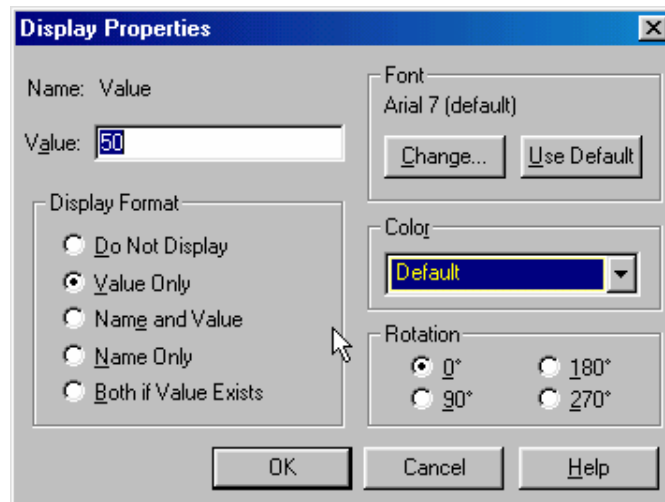

Figure C-7
- To complete the schematic, we have to change the component values. Each resistor was given a name in the order it was placed on the diagram. Thus, your resistors may not have the same names as shown above. However, for simplicity, they will be referred to by the name shown here. To change R1 to 50 ohms (the input impedance of the function generator), double click on the value *1k* and you should get the window shown in figure C-7 with the name *Display Properties*. Change the *1k* to *50*. If you find that the number is in a hard to read position on the circuit diagram, you can single click on it and then move it with the mouse. The next resistor brings up a very important issue since it has a value of 1 M ohms. When you type the value in the *Display Properties* window, you must type *1MEG* with no spaces. Note that you have to type *MEG* since *PSpice* uses *M* to mean  $10^{-3}$  and *MEG* for  $10^6$ . It is not case sensitive. Note that in the schematic pictured, R1 represents the function generator impedance, R2 and R3 are the resistors in your voltage divider and R4 represents the impedance of the scope. Since the scope impedance is 1M, we set R4 to 1MEG. R2 and R3 are 1k ohms, you don't need to set them since they are already 1K by default.